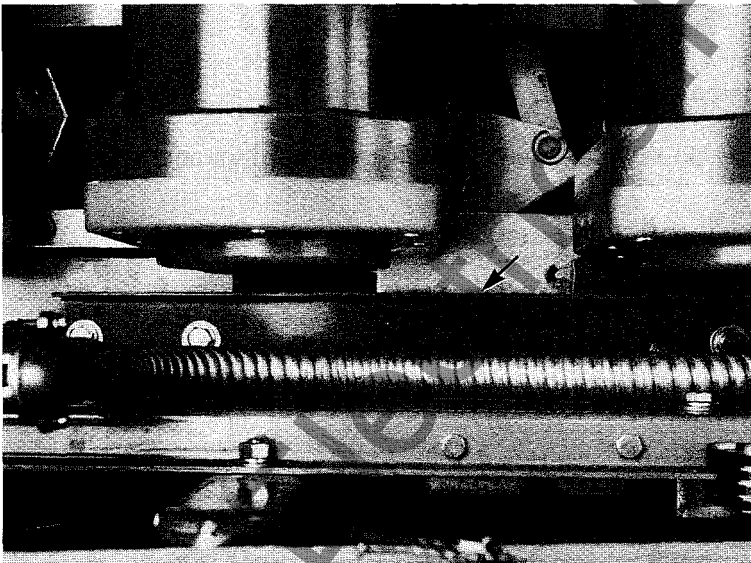

Figure 36: Support channel
2. Remove the support channel below the pole units by removing the seven mounting screws (figure 36).